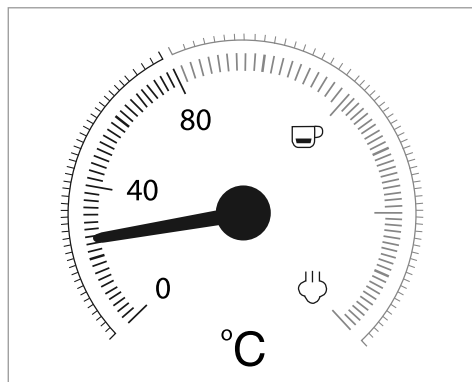

Figure 1
The temperature indicator (2) indicates how far the appliance has heated up (Figure 1).